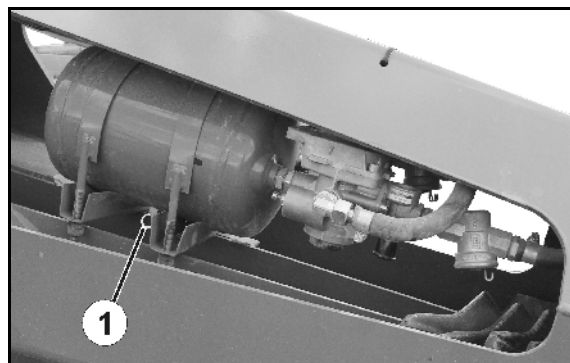

Fig. 73
1. Pull the drain valve (Fig. 73/1) in a sideways direction using the ring until no more water escapes from the air reservoir.